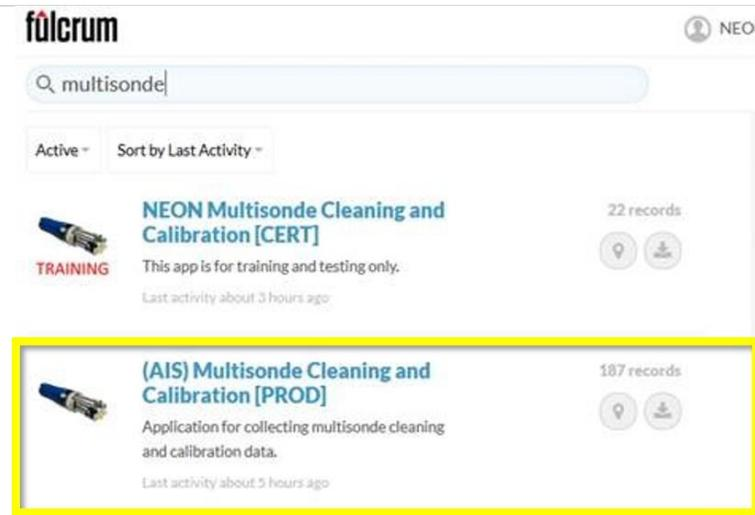
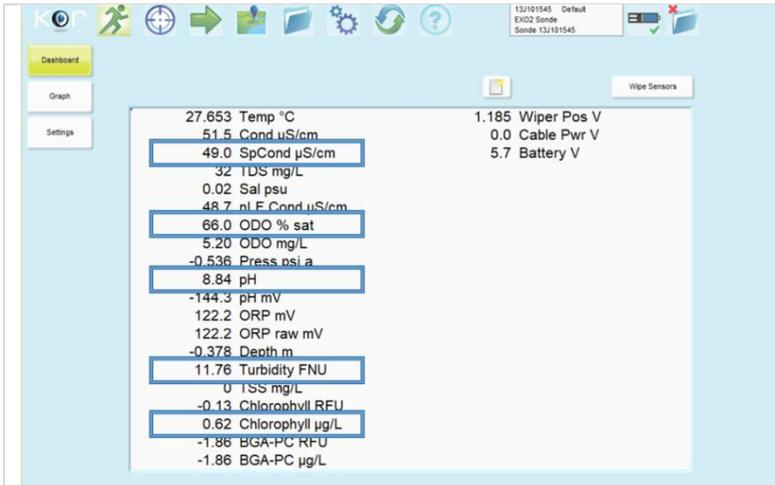

Figure 69. Submit Pre-clean/Post-clean Results in Fulcrum
Figure 70. Input the Measurements Identified by Blue Squares
**STEP 8** | Submit the pre-clean/post-clean results electronically via the Fulcrum application (Figure 69).
Figure 70 provides an example of what measurements to capture for the Multisonde’s pre- and post-cleaning measurements. Input this information into the Fulcrum Application shown in Figure 69.